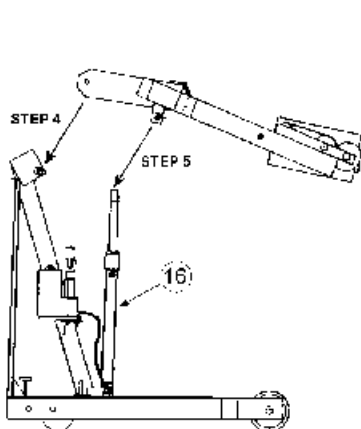

FIGURE 3
Step #4: Lift overhead assembly into position. A drift pin can help align the holes. Insert a greased clevis pin (item 12) through mast cap and boom. Install a 5/8" washer (item 9) and 3/16" roll pin (item 8) in the end of the clevis pin. See figure 3.